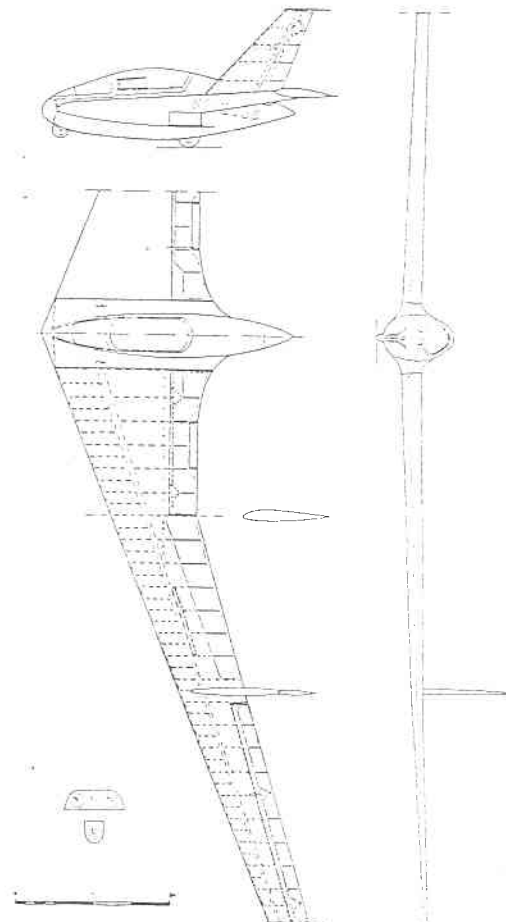

FIGURE 8. SZD-20x. Wampir 2 designed by Jan Dyrek, 1959. Maiden flight, Katowice, 1959 by test pilot Adam Zientek.
3. SZD-13x "Wampir" (VAMPIRE) and SZD-20x "Wampir 2" (figure 8).
This design was not actually built but provided many general ideas and technical background for its successor namely SZD-20x "Wampir 2" (Figure 8).